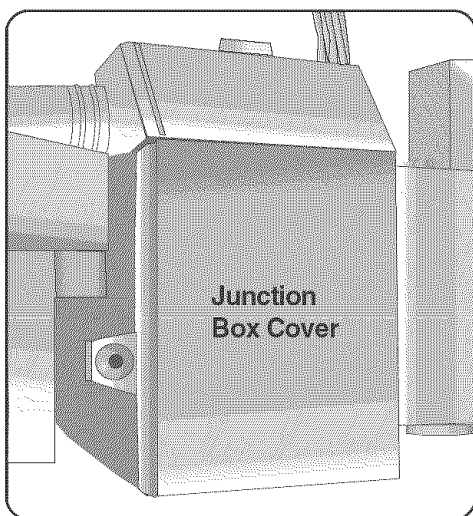

Figure 13
- 1) Remove junction box cover, Figure 13, by lifting the junction box cover up and off.